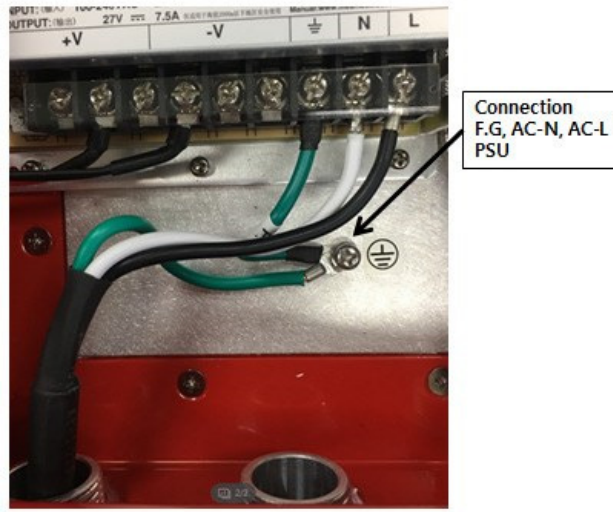

Figure 5-7: Connection AC Power Cable
2. Connect the power cable to the AC 110V power connector on the Signal Booster, Figure 5-7.
The Signal Booster connector and the cable connector are keyed as shown in Figure 5-7.